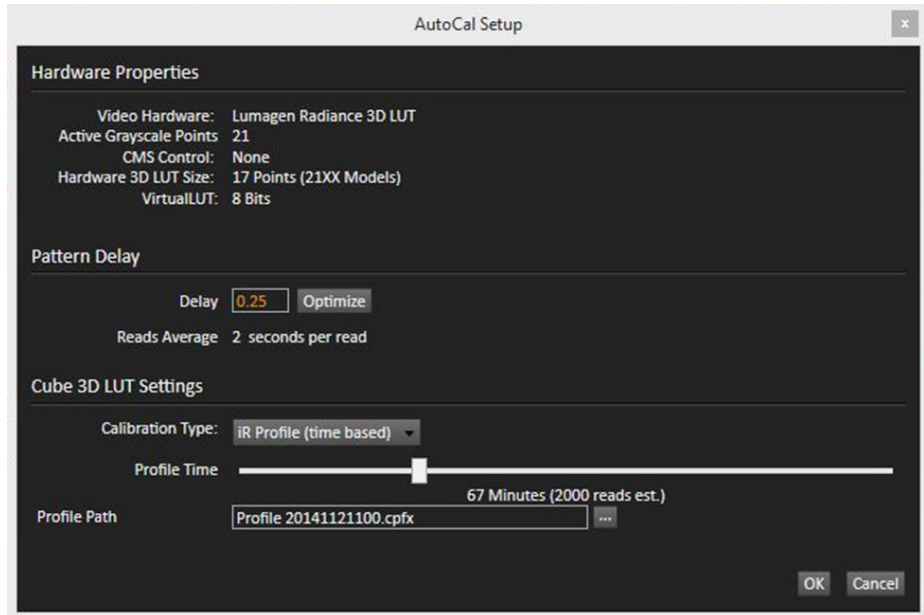

Figure 1. CalMAN 3D LUT AutoCal Setup dialog for Lumagen Radiance.
6. On the *3D Cube LUT* page, click the *AutoCal* (rotating arrows) button at the right end of the meter action buttons. The *AutoCal Setup* dialog then appears (Figure 1).